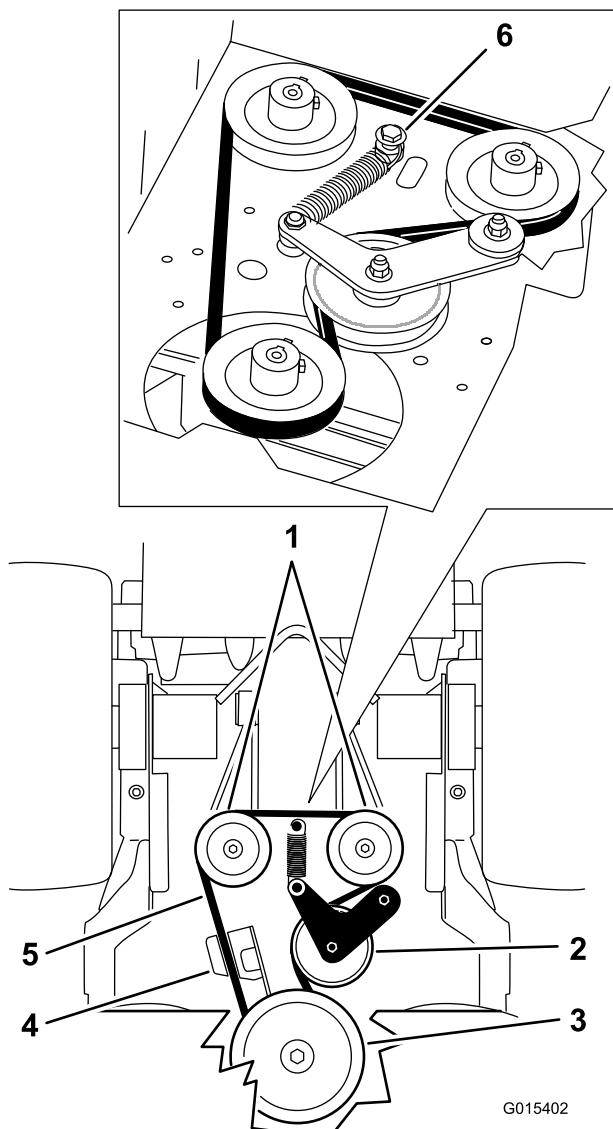

Figure 68
5. Remove the shoulder bolt, the nut, and the washer from the engine deck and connected spring (Figure 68).
6. Remove the pump-drive belt (Figure 68).
8. Install the spring onto the shoulder bolt and washer, and connect it to the engine deck with the nut (Figure 68).